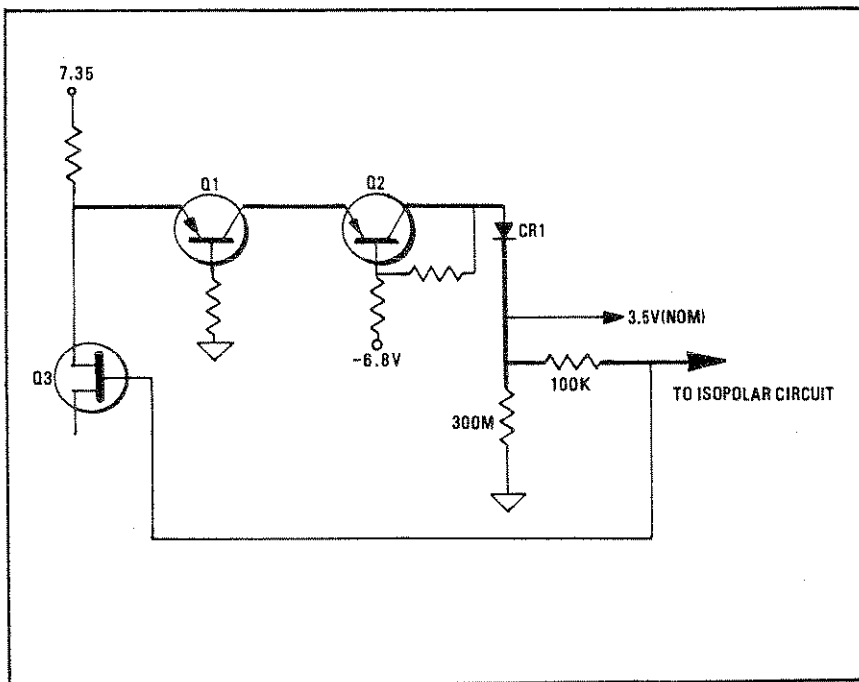

Fig. 3-4. Resistance Voltage Excitation
d. Figure 3-4 is a simplified schematic of the circuitry that generates the excitation voltage used for resistance measurement. The two pass transistors Q1 and Q2 and diode CR1 are used to develop the nominal 3.5 volts to excite the series input of resistance to be measured and range-selected precision standard resistance. The pass transistors provide a breakdown limit of $2 \times 250\text{V}$ peak for protection of the specified 250 VRMS value, while FET transistor Q3 is connected as a voltage clamp on the input to Q1.